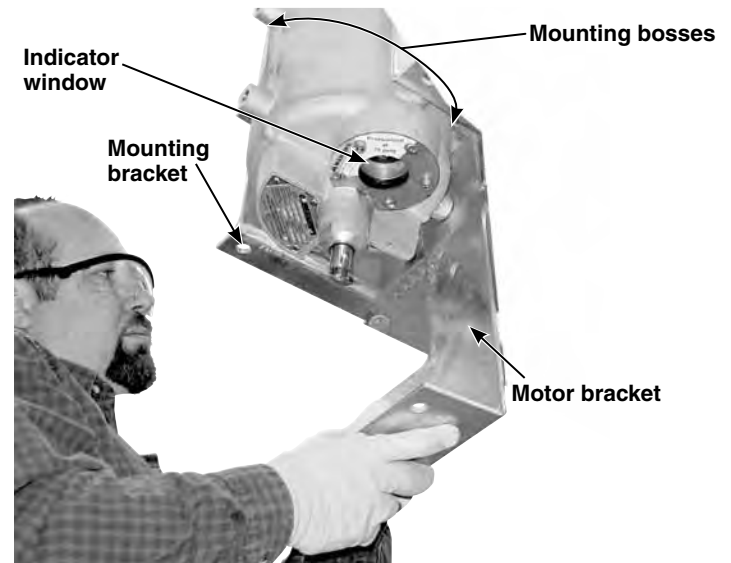

Figure 9. Insert motor mounting bracket if applicable.
**If the optional motor operators are furnished:** Before attaching the pole-unit base to the mounting bracket, insert one of the two  $\frac{1}{4}$ -inch-thick “L”-shaped motor brackets from the underside of the structure, and position it as shown in Figure 9. If the motor bracket and the first pole-unit mounting bracket are using a common set of mounting bosses, make sure the motor bracket is inserted between the pole-unit mounting bracket and the pole-unit base. The “L” must be facing away from the indicator window side of the pole-unit. See Figure 9.